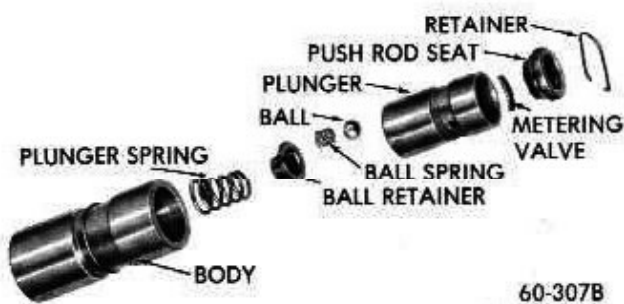

Figure 60-86 - Hydraulic Valve Lifter Parts
16. Hold plunger in vertical position with feed hole up, then rinse and install the check ball, check ball spring, ball retainer, spring, and body over the plunger. See parts in Figure 60-86.